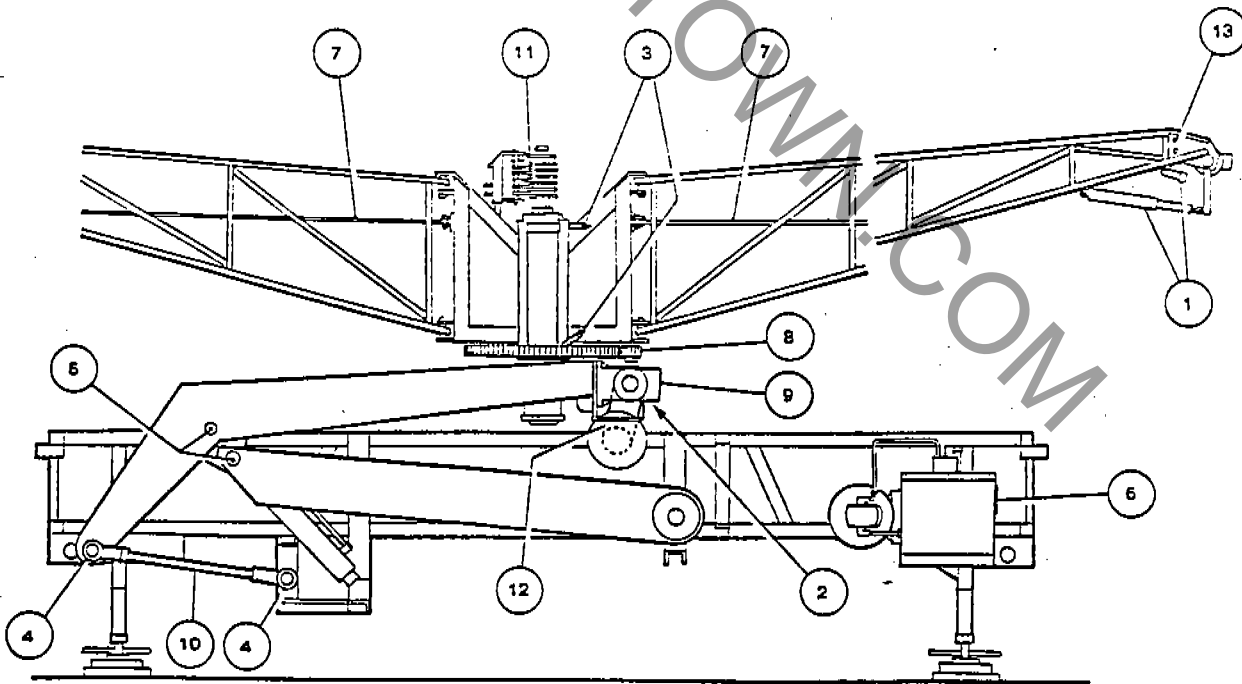

Fig. 6
2.0 - MAINTENANCE (Fig. 6)
- Smear pinion and crown (8) with expendable grease.
- Check reduction gear (9) oil level (if topping up is necessary, use SAE 90 oil).
- Check arm position with respect to the base; if necessary act on tie-rod (10).
- Check brushes (11) for wear; minimum thickness: 4 to 5 mm.
- Check drive belts (12) for wear and correct tension.
2.0 - MANUTENZIONE (Fig. 6)